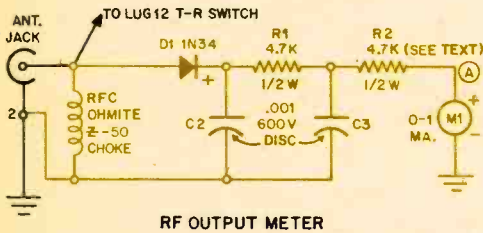

Fig. 3—RF-output-meter circuit shown in color. Be sure of the polarity of D1 before installing.
• **RF Output Meter.** The plate current dip in the Sixer is difficult to determine. A much more accurate tune-up can be achieved by using a meter that reads RF voltage. Mount the meter on the front panel as shown in Fig. 1. The circuit is shown in Fig. 3 and the installation of the rectifier-filter network (already built in the HW-29A) is